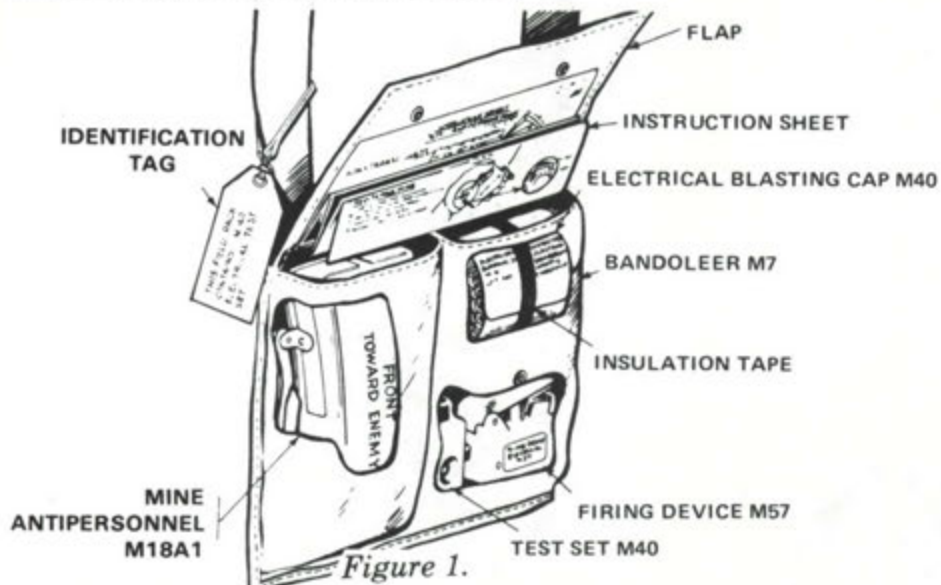

Figure 1.
- a. Account for all accessories in the bandoleer (figure 1) and read the attached instruction sheet. Remove the electrical firing wire, leaving the mine and other accessories in the bandoleer.